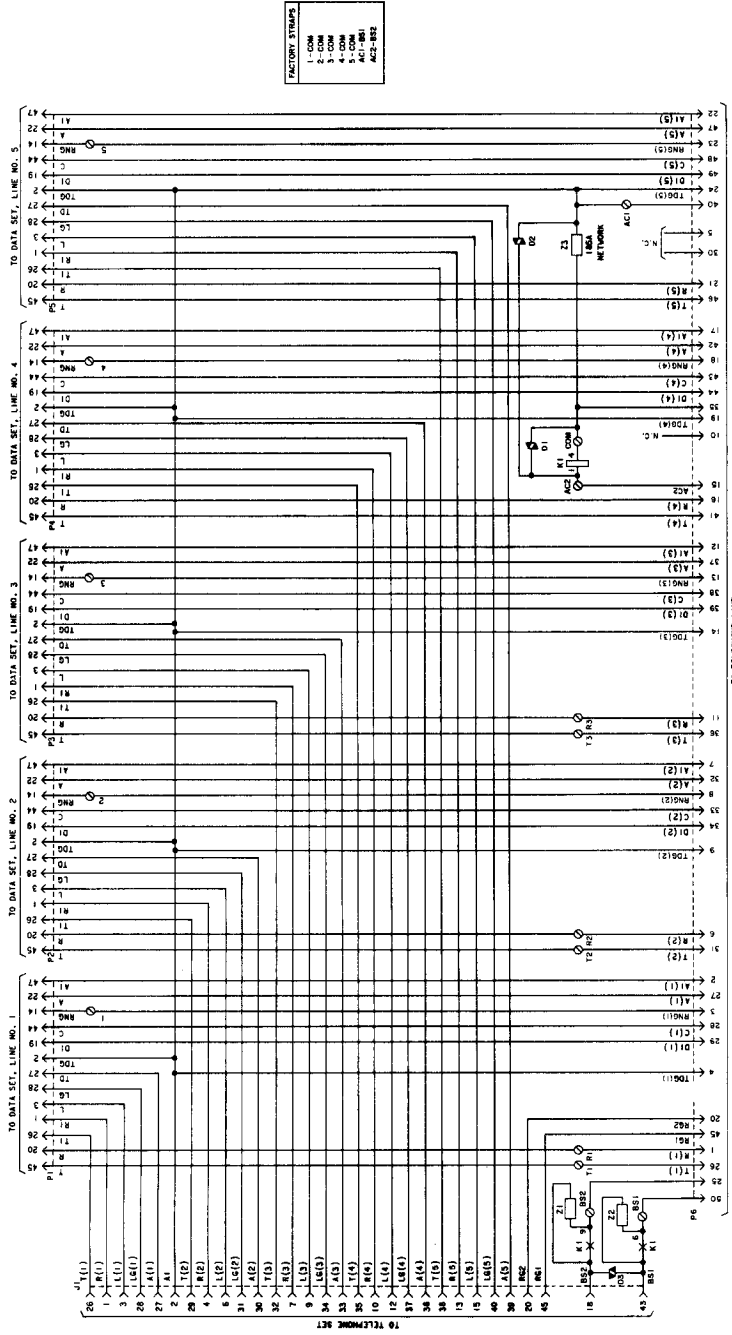

Fig. 11—Adapter for up to Five Data Sets Connected to One Telephone Line
4.07 The buzzer is used for the indication in order to avoid the need for a local ringing generator. If ringing is desired, the telephone set can be rewired to place the ringer across pins 18 and 43 (Fig. 11) of the telephone set connector, and the ringing current supply brought in to screw terminals BS1 and BS2 or through the telephone line connector on pins 25 and 50. In this case, the connections between terminals AC1 and BS1 and AC2 and BS2 must be removed.